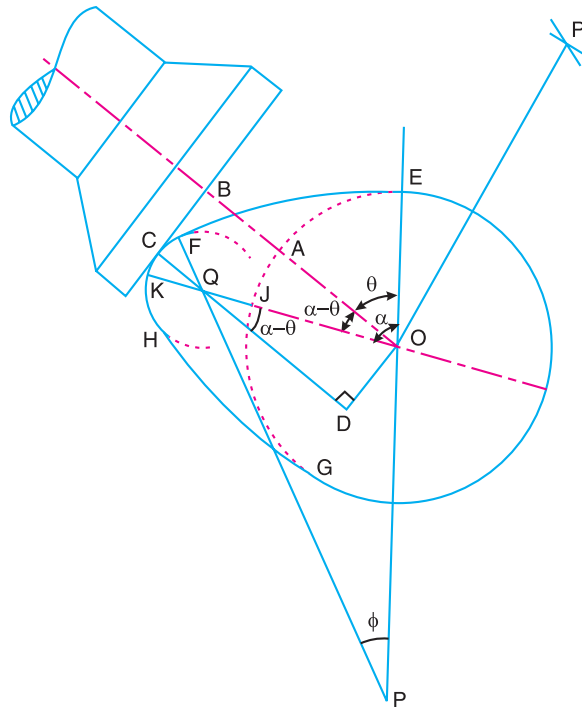

Fig. 20.45. Circular arc cam with flat face of the follower having contact on the nose.
2. When the flat face of the follower has contact on the nose. The flat face of the follower having contact on the nose at C is shown in Fig. 20.45. The centre of curvature of the nose lies at Q . In this case, the displacement or lift of the follower at any instant when the cam has turned through an angle θ (greater than ϕ) is given by
* From the geometry of Fig. 20.45, we also find that lift of the follower when the contact is at the apex K of the nose is